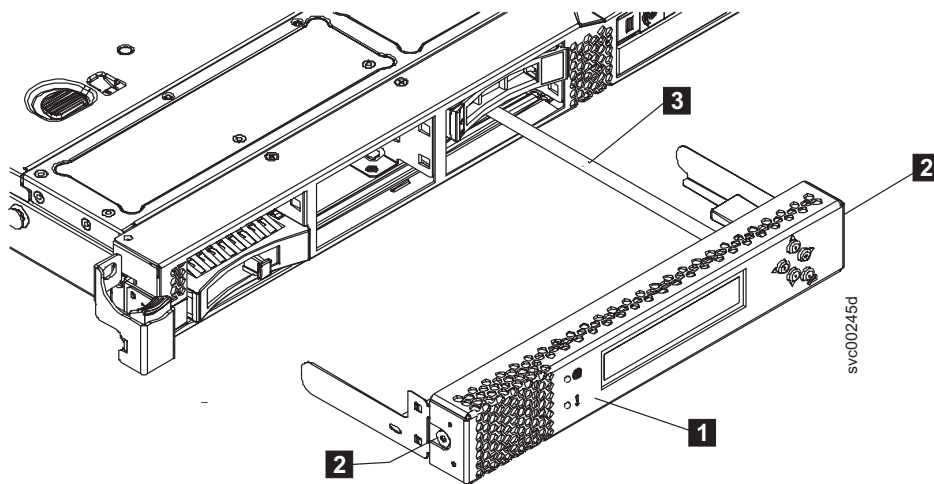

Figure 74. Service controller for the 2145-CG8 or 2145-CF8 with attached USB cable
7. Gently press both release buttons, shown by **2** in Figure 74, and release the catch while pulling gently forward on the service controller.